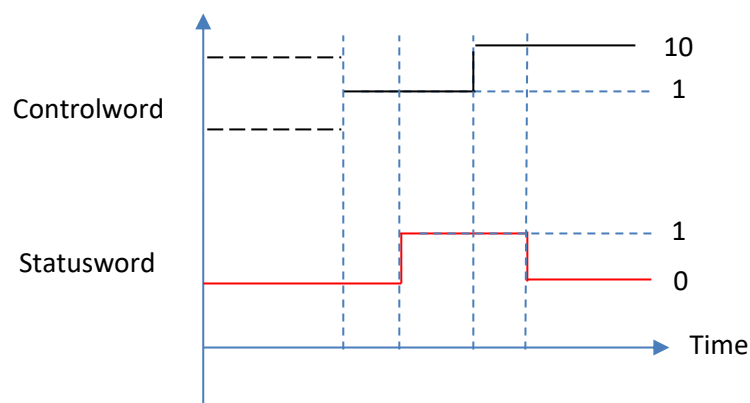

Figure 3.1. Controlword and statusword handshake mechanism.
- Set controlword to another value (except those in Table 3.4), for instance 10, this will be responded by bit 3 of statusword, as shown Figure 3.1.